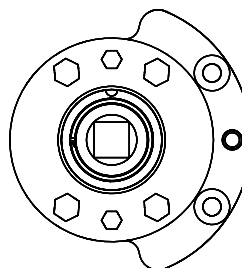

Figure 20
6. Align adapter plate hub with square hole in lever; keeping hub as tight as possible. (Figure 20)